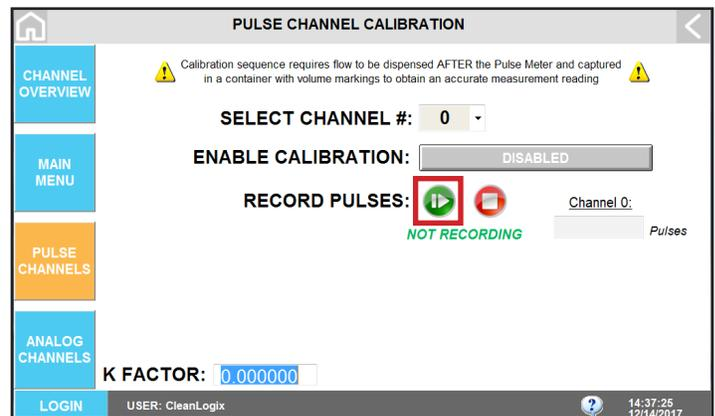

Figure 9.2: Pulse Flow Meter Calibration Screen
4. Select  to begin Recording the pulse counter [Figure 9.2].